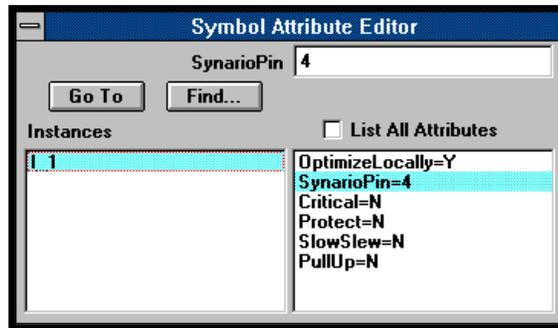

Figure 1-9. Symbol Attribute Editor
22. Select the SynarioPin=4 attribute and replace the * in the text box with the number 4 as shown in Figure 1-9. Close the dialog box. Notice that the number 4 has been added in the I/O Pad symbol in the schematic.